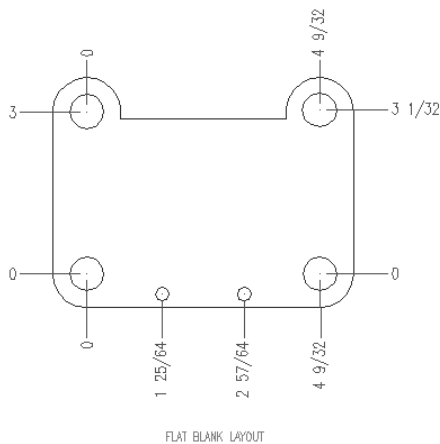

**Figure 14-20:** Ordinate dimensions in a mechanical drawing of a tension arm for a commercial dryer.
*Ordinate dimensions* are used in mechanical drawing. They dimension an object by labeling X or Y coordinates based on a 0,0 coordinate placed somewhere on the model. Figure 14-20 shows a drawing with some ordinate dimensions.